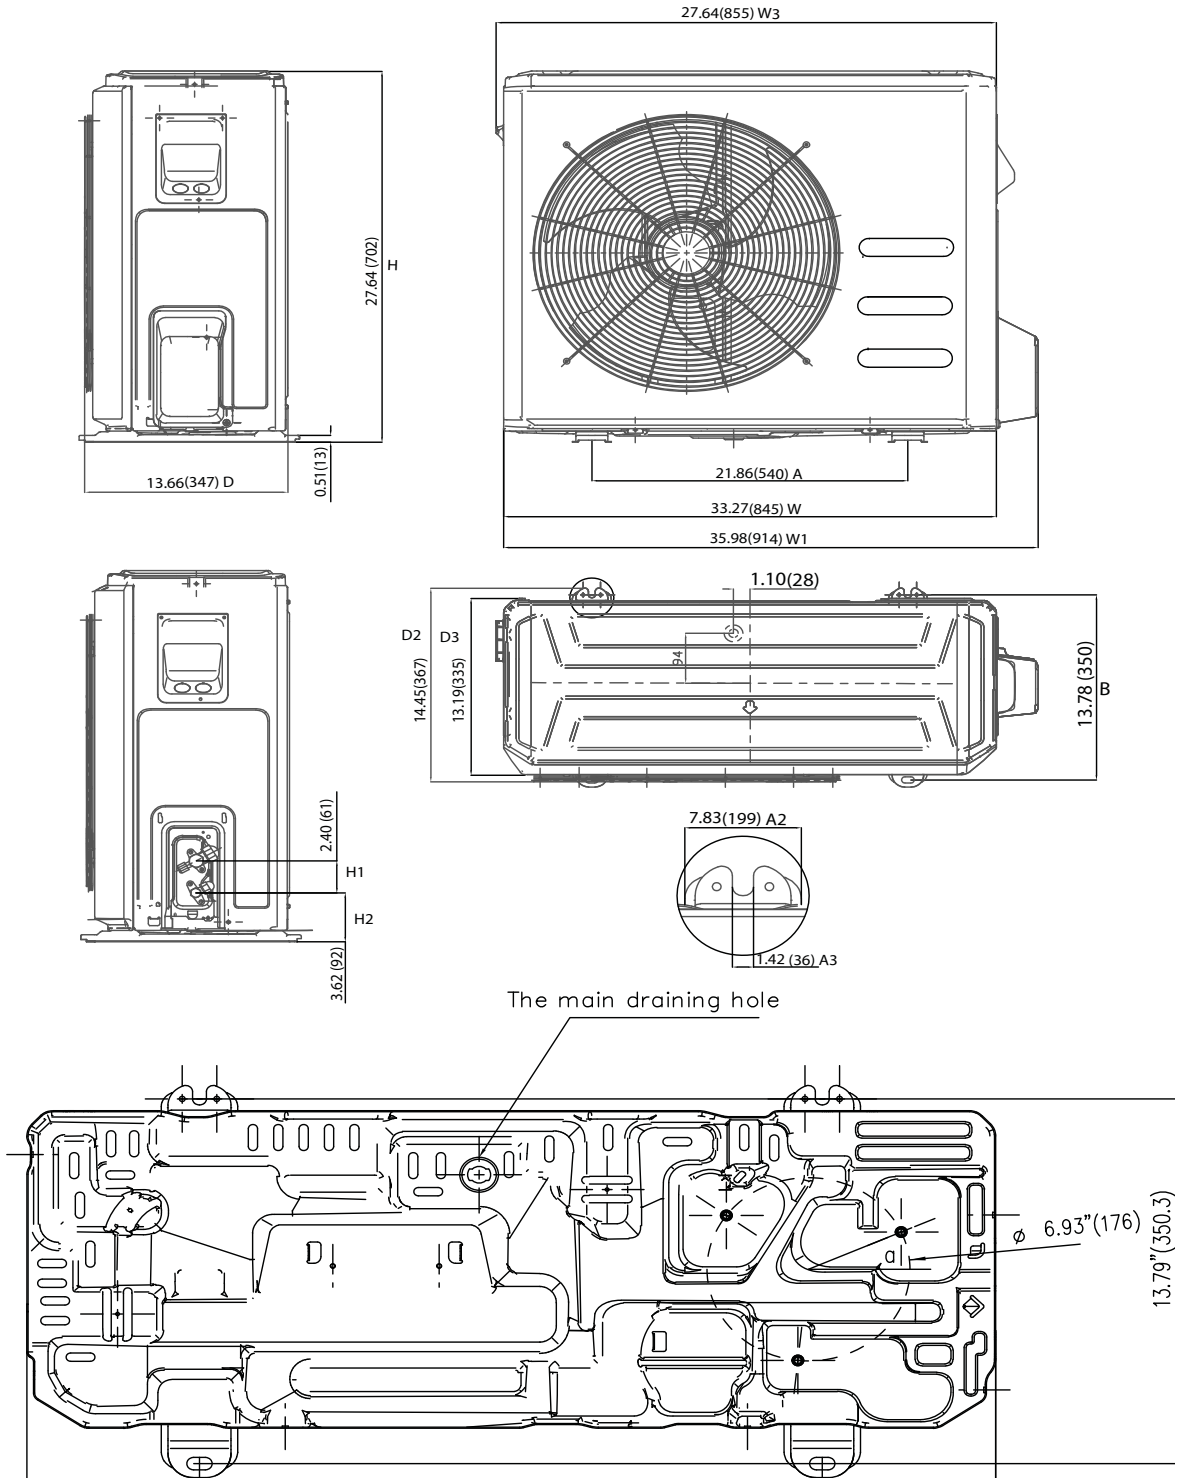

Fig. 3 — Sizes 9K and 12K
Allow sufficient space for airflow and service of the unit. See Fig. 3 for the required minimum distances between the unit, walls or ceilings.
- A location which provides appropriate clearances (see Fig. 3).